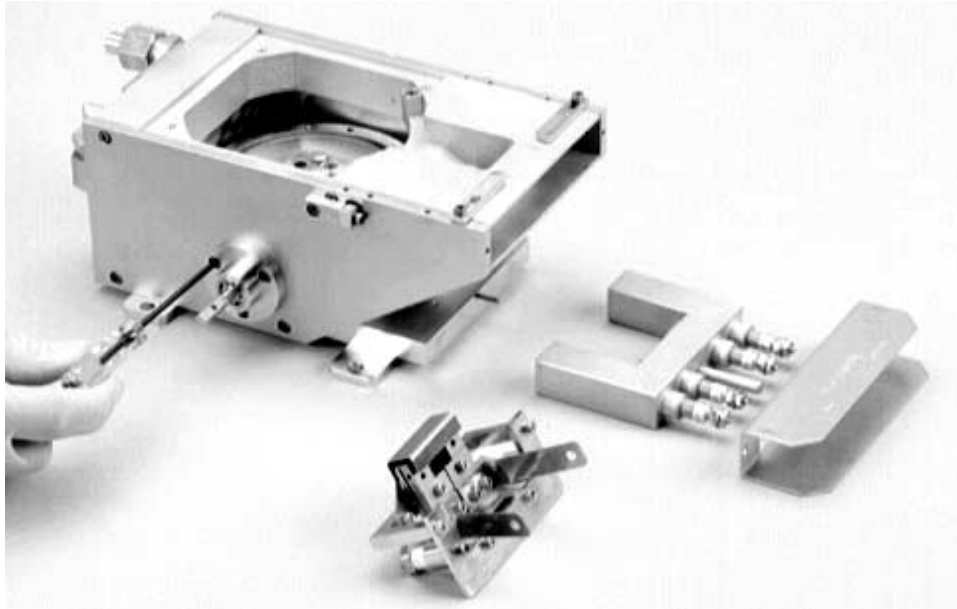

Figure 6-8. Removing the side-drive assembly
Step 8: Remove the screws that secure the side-drive assembly to the left- or right-hand pole piece, as the case may be (see Figure 6-8).